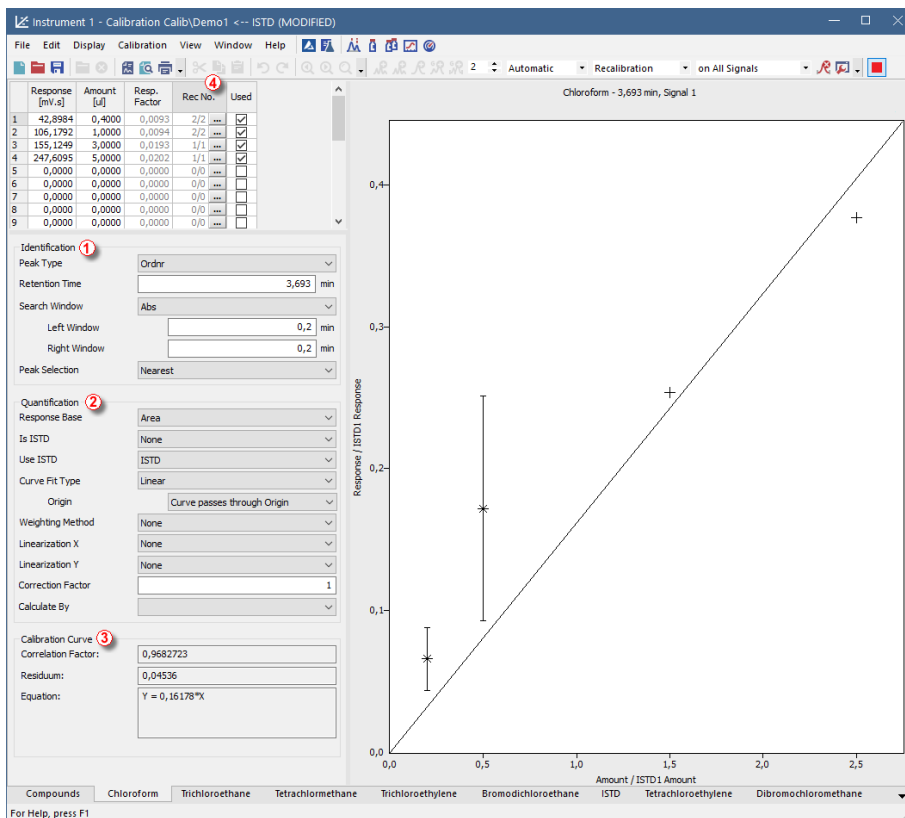

Fig 5: Calibration - tab of a specific compound
Rec No. ④ (Fig 5 on pg 5.) shows number of used recalibrations / total recalibrations on the respective level. Clicking ... invokes the Details of Calibration Point dialog with a detailed log of the selected level of the calibration point. Levels that have not yet been (re)calibrated have default value 0/0.